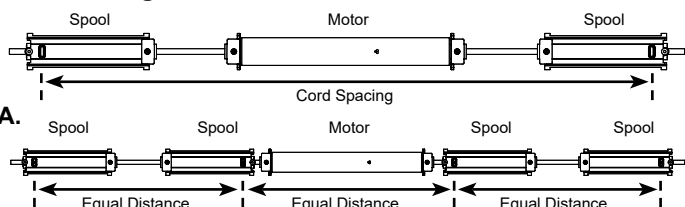

Fig.6A.
A. Even Number of Cord Spools: The motor can be placed in the center of the track. The distance between each lift cord should be equal when using 4 or more spools, as shown in **Figure 6A**.